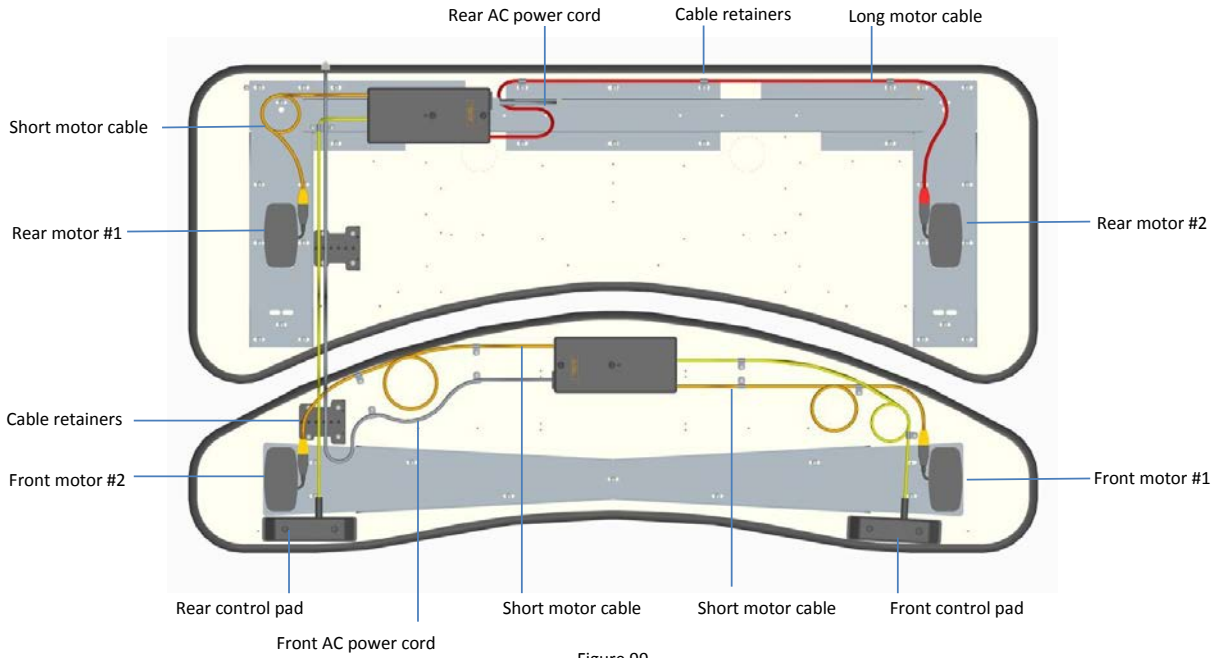

Figure 99
A 2-channel control box is required for each motorized work surface. Mount each control box to the underside of the work surface with (2) #10 x 1-3/4" long Phillips head screws, as shown in figure 99. The rear work surface control box mounts to the right hand end of the work surface frame channel with its power receptacle pointing left towards the center of the desk. The front control box mounts to the middle of the front work surface with its power receptacle pointing to the right.
Mount (1) button pad for each motorized work surface to the underside of the front work surface using (2) #8 x 3/4" Phillips flat head wood screws for each pad. If your linear sit-to-stand desk has only one motorized work surface, mount one control pad in the right hand position. See figure 99.
Figures 99 and 100 show the wiring of a typical linear sit-to-stand desk with both front and rear lift motors (PEWS60303). However, some desks will only have rear lift motors and (or) a manual counterbalanced front work surface with no lift motors. Note the lift motor numbers in figure 99; connect the motors to the corresponding numbered receptacles on each control box. Connect one control pad to the "A1" receptacle on each control box. Ensure that all cable retention devices are properly engaged when plugging in the cables.